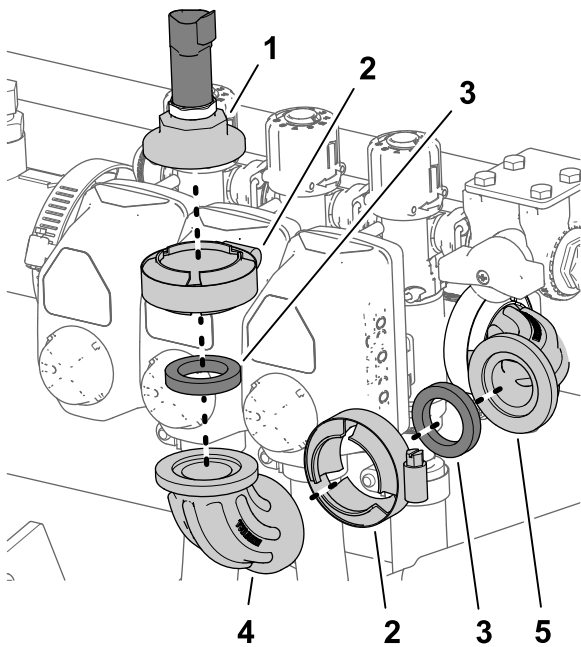

Figure 31
1. Remove the flange clamp that secures the ported-fitting cap, pressure transducer, and gasket to the 90° elbow at the end of the right-section valve, and remove the cap, transducer, and gasket (Figure 31).
- Remove the flange clamp, 90° elbow (non-ported), and gasket from the ported 90° elbow (Figure 31).
- Align the fitting cap, and gasket to the flange of the 90° elbow at the end of the right-section valve (Figure 31).
- Secure the fitting cap and gasket to the 90° elbow with the flange clamp (Figure 31).